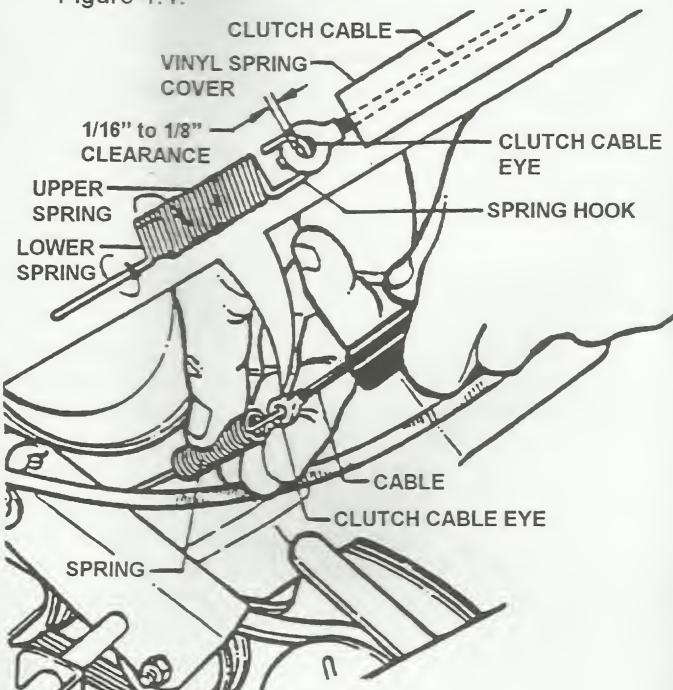

FIGURE 4.4
1. The wheel drive control is properly adjusted when there is  $1/16"$  to  $1/8"$  clearance between the inside of the spring hook and the inside of the clutch cable eye with the wheel drive control released. See Figure 4.4.